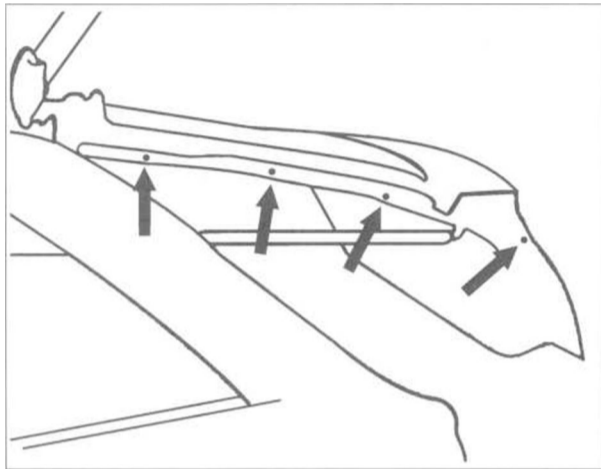

Fig. 6. Screws (arrows) at side tailgate trim cover. Remove screws on left and right sides and pry cover from retaining clips.
- Remove screw from trim cover on side of tailgate and carefully pry trim cover from tailgate. See Fig. 6.